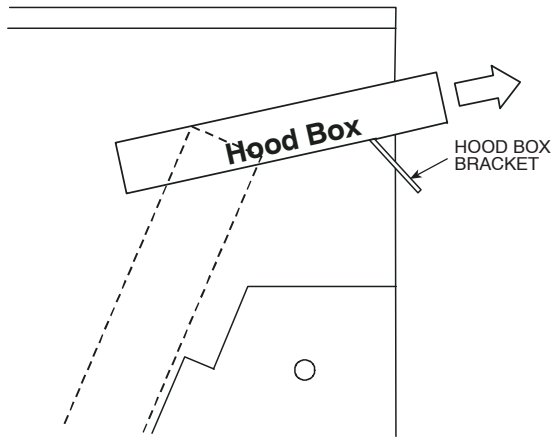

Fig. 23 – Hood Box Removal
2. The box with the economizer hood components is shipped in the compartment behind the economizer. The EconoMiSer IV controller is mounted on top of the EconoMiSer IV. To remove the component box from its shipping position, remove the screw holding the hood box bracket to the top of the economizer. Slide the hood box out of the unit. (See Fig. 23.)